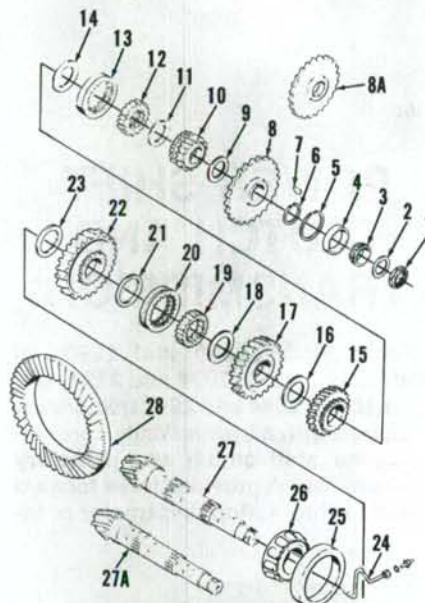
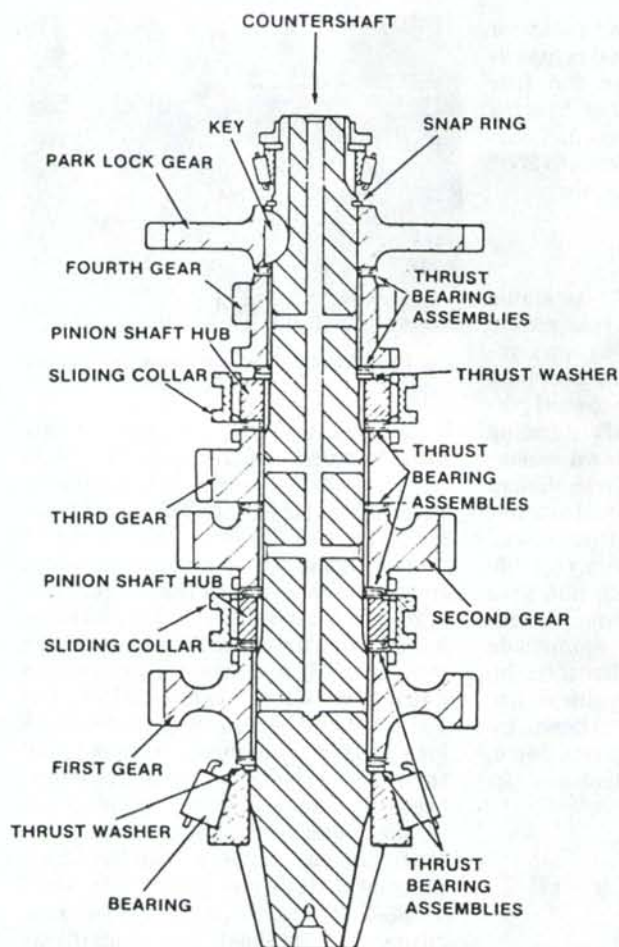
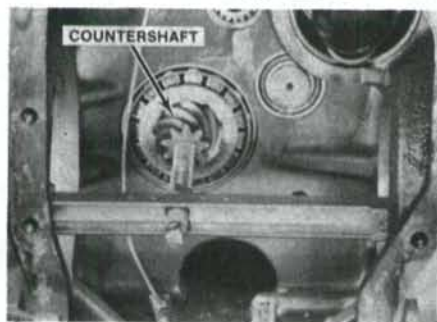

Fig. 108—Exploded view of four-speed gear countershaft used on all Model 2090 and 2290 tractors.
Fig. 110—Cross-sectional view of assembled countershaft and related parts.
Fig. 111—With differential removed, install jackbolt and bar to support countershaft for reassembly.
Bend retainer nut (1—Fig. 108) lip from notch in countershaft and remove nut and thrust washer (2). Remove snap ring (6) from shaft. Using a brass drift, drive countershaft rearward approximately $\frac{1}{4}$ inch (6.35 mm) and install a suitable puller and remove front countershaft bearing cone (3). Push countershaft assembly rearward until out of park lock gear (8) and remove Woodruff key (7) (on models equipped with transmission S/N 10237494 and below) from countershaft. Push countershaft rearward while removing items (9 through 18) out top of access opening. Park lock gear cannot be removed until fourth, third and second gears are removed. Remove park lock gear (8) then remove remainder of items (19 through 23) out top of access opening and withdraw countershaft from rear of transmission.
116. Clean and inspect all parts for damage or excessive wear and renew as necessary. Check bearings for free smooth action and renew any bearing having a loose fit or rough action. Bearing (26—Fig. 108) may be heated to 250° F (120° C) for ease of assembly.
117. COUNTERSHAFT. Assemble countershaft as follows: If rear pinion bearing cone (26—Fig. 108) was removed, heat and install bearing cone on countershaft with large side toward pinion gear. With countershaft standing vertical with pinion gear down assemble shaft components as follows: Install $\frac{1}{8}$ inch (3.18 mm) thick thrust washer from thrust bearing (23), then install needle bearing and cup washer, cup side down. Install first gear (22), hub gear end up. Install pinion shaft hub (19) with $\frac{1}{4}$ inch (6.35 mm) recessed spline side down, then install shift collar (20). Install thrust bearing (18), cup side down; second gear (17), hub gear end down. Install thrust bearing (16), cup side down, then third gear (15), hub gear end up.
Install thrust bearing (14), cup side up. Install pinion hub (12) with $\frac{1}{4}$ inch (6.35 mm) recessed spline side down, then install shift collar (13). Install thrust bearing (11) with $\frac{1}{8}$ inch (3.18 mm) thrust washer first and remainder of assembly, cup side down. Install fourth gear (10) with hub gear end down. Install thrust bearing (9) with cup side up. Install park lock gear (8) and key (7) (on models equipped with transmission S/N 10237494 and below) on shaft. Tap park lock gear with hammer to make sure there is no clearance between assembled parts. Install a shim type snap ring (6) and measure clearance between snap ring and park lock gear. Install appropriate thickness snap ring until 0.003-0.011 inch (0.076-0.279 mm) clearance is obtained. Snap rings (6) are available in thicknesses of 0.078, 0.088, 0.098, 0.108, 0.118, 0.128 and 0.138 inch (1.98, 2.24, 2.49, 2.74, 3.0, 3.25 and 3.5 mm). See Fig. 110 for cross-sectional view of assembled countershaft. Remove all parts from countershaft for assembly into transmission.
If front bearing cup was removed, install snap ring (5—Fig. 108) and press cup (4) into bore against snap ring. Install countershaft through rear of transmission case assembling parts in order outlined previously in this paragraph and shown in Fig. 110. Install a bar and bolt as shown in Fig. 111 to hold countershaft rigid and in correct position for installation of front bearing. Heat front bearing cone (3—Fig. 108) and install on front of countershaft, then install thrust washer (2) and retainer nut (1).
118. COUNTERSHAFT BEARING PRELOAD. Remove bar and bolt shown in Fig. 111. Tighten countershaft retainer nut, while rotating countershaft to remove clearance between countershaft bearing cones and cups. With transmission in neutral, measure rolling torque with a torque wrench. Tighten retainer nut until an additional 25-35 in.-lbs. (2.8-3.9 N·m) rolling torque for new bearings or 15-25 in.-lbs. (1.7-2.8 N·m) additional rolling torque for